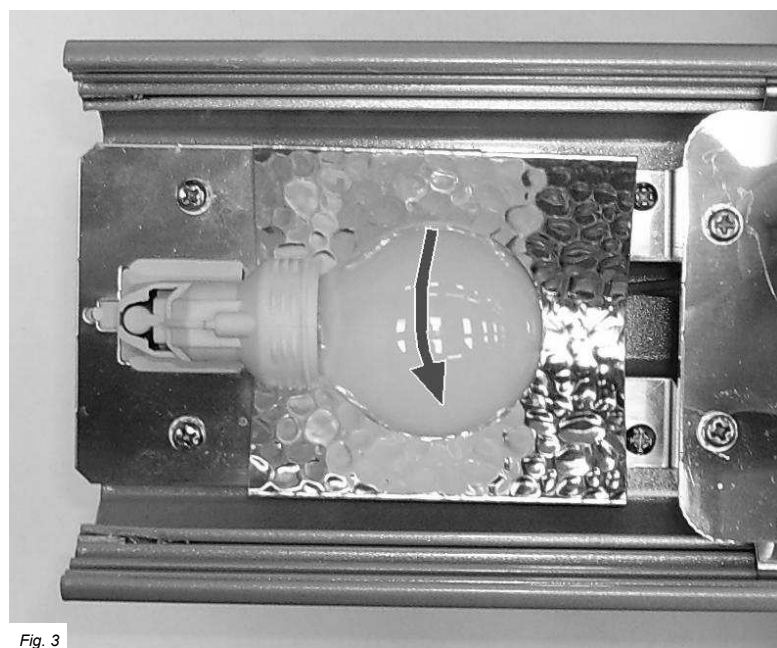

Fig. 3
5. Remove the light bulb by rotating it anti-clockwise until it is released from the bulb holder (Fig. 3).